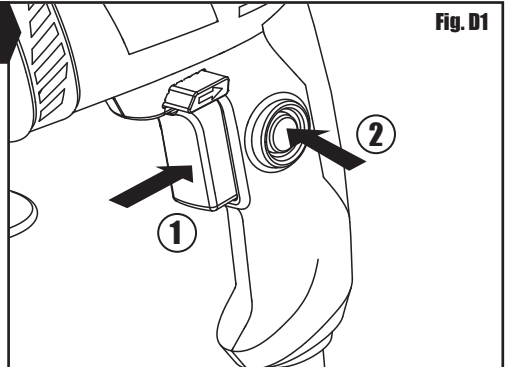

Fig. D1
4. OPERATING THE ON/OFF SWITCH (See Fig. D1,D2)
Depress the variable speed control (6) to start and release it to stop your tool. Depress the variable speed control (6) then the lock on button (5). Your tool is now locked on for continuous use. To switch off your tool just depress and release the variable speed control (6). (See Fig. D1)